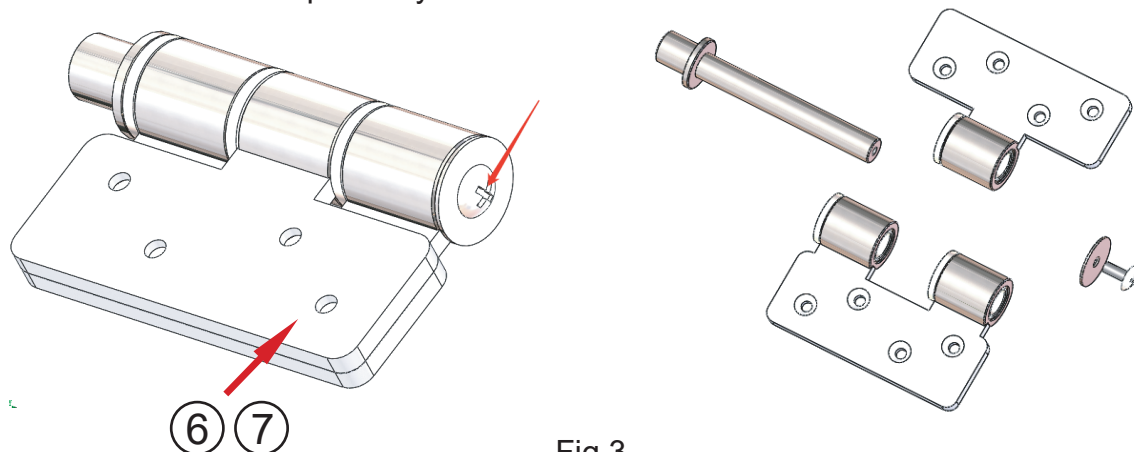

Fig 3
2. Drill the hinge fixing holes on the 1st leaf door and the 2nd leaf door, and the upper hinge should be aligned with the upper edge. Unscrew the screws below the hinge as Fig 3, take out the central shaft, and fix them on the door respectively.